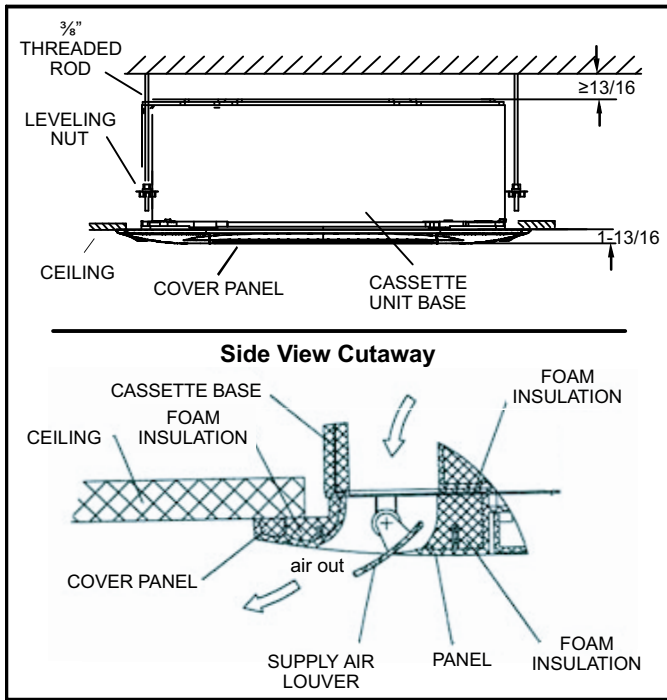

Figure 15. Cover Panel in Place
- 7 - Use the provided screws to secure the cover panel to the unit base. Continue to tighten the cover panel securing screws until the insulation between the cover panel and the cassette base has been compressed to approximately $\frac{1}{4}$ ". The cover panel must form a seal with the ceiling and the cassette base around the entire perimeter of the unit. See figure 15.